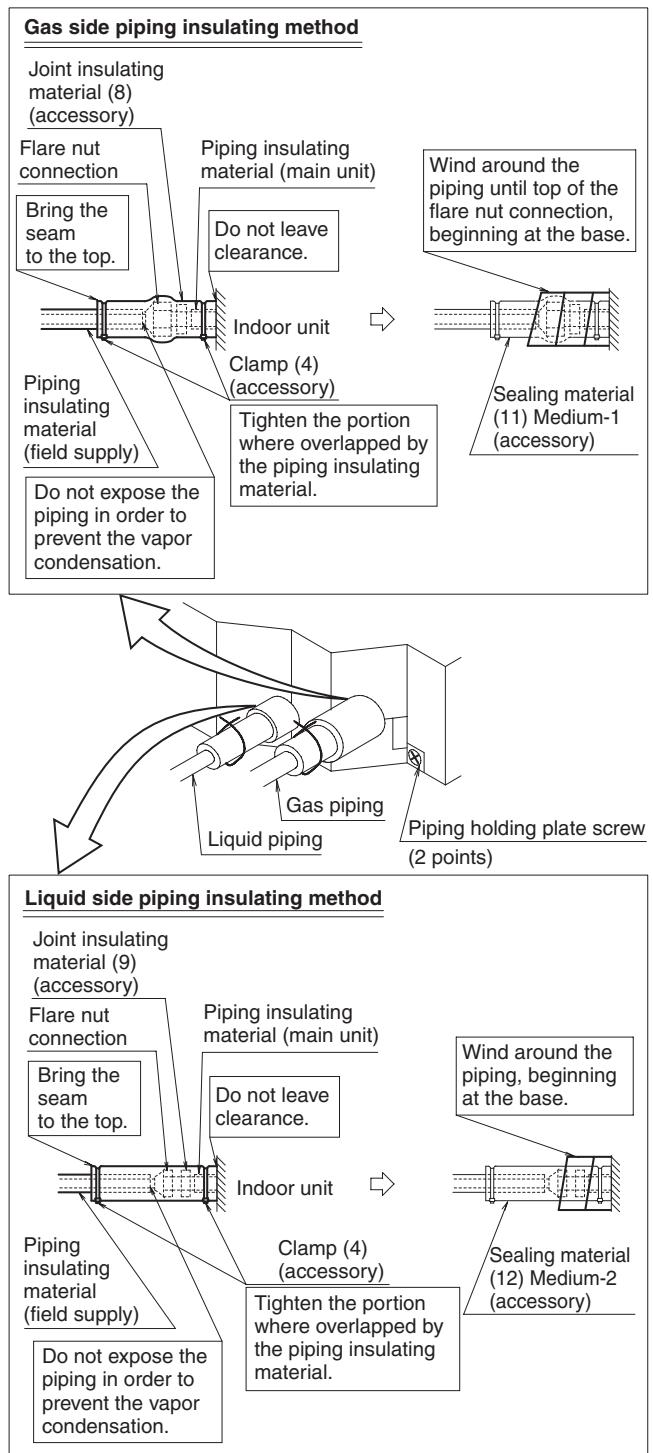

Fig. 12
- After leak test, referring to **Fig. 12**, insulate both the gas and liquid piping connection with the attached joint insulating material (8) and (9) to prevent the pipings from getting exposed.
- Then, tighten the both ends of insulating material with the clamp (4).
- Wrap the sealing material (Medium-1, 2) (11) (12) around the joint insulating material (8) and (9) (flare nut section), both the gas and liquid piping.
- Make sure to bring the seam of joint insulating material (8) and (9) to the top.
After all the brazing works are finished, carry out flare connection with the indoor unit. (Refer to Fig. 12)